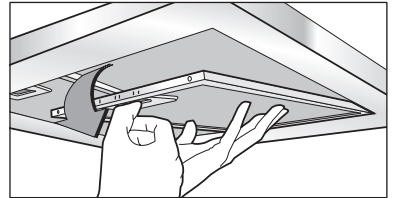

Fig.8
• The minimum distance between the support surfaces of the cooking pots on the cooker top and the lowest part of the cooker hood must be at least **65 cm**. If a connection tube composed of two parts is used, the upper part must be placed outside the lower part. Do not connect the cooker hood exhaust to the same conductor used to circulate hot air or for evacuating fumes from other appliances generated by other than an electrical source. Before proceeding with the assembly operations, remove the anti-grease filter(s) (Fig. 8) so that the unit is easier to handle.
•METALLIC ANTI-GREASE FILTERS (Fig. 8):